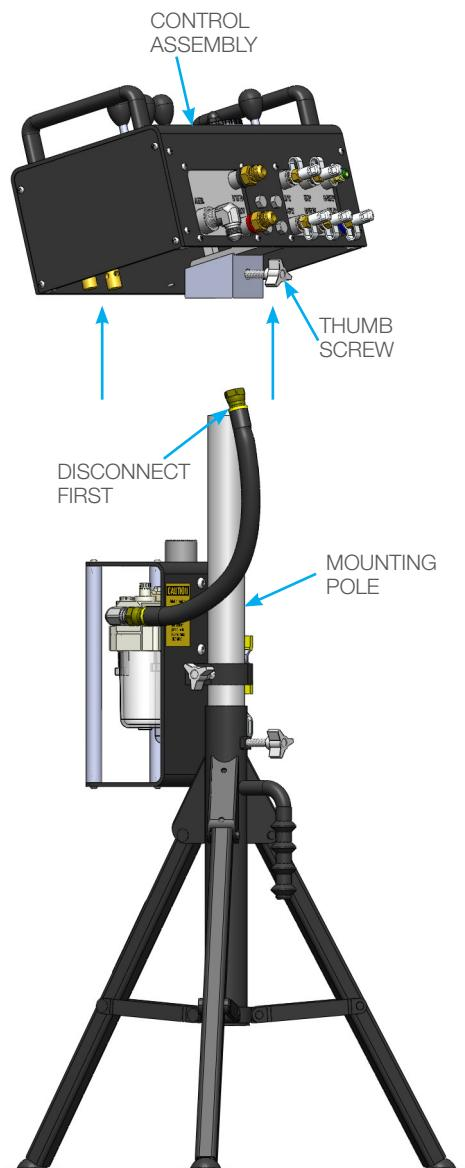

FIGURE 1
1. Disconnect the air hose from the back of the Control Assembly. Loosen the Thumb Screw on the Pole Mount and carefully lift the Control Assembly off of the Mounting Pole. Put the Control Assembly aside. (**Figure 1**)
1. Connect the BLACK and RED 1/2" lines from the AutoStroke "Forward" and "Reverse" connections to the "Forward" and "Reverse" connections on the back of the CB-ABX. Connect the SHORT 1/4" I.D. Hose to the fitting marked "CLAMP" on the left side of the AutoStroke to the "CLAMP" fitting on the Control Box. (**Figure 1**)